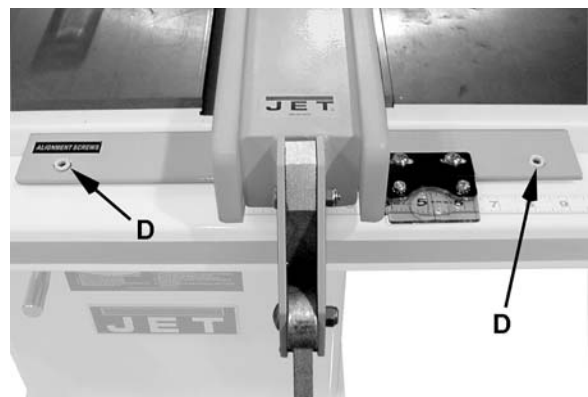

Figure 10
3. Raise or lower two nylon adjustment screws (D, Figure 10) *the same number of turns* until the space between bottom of fence and table is the same. Care must be taken to raise or lower fence on each side equally or the fence may not be 90° to the table after the height adjustment is performed.